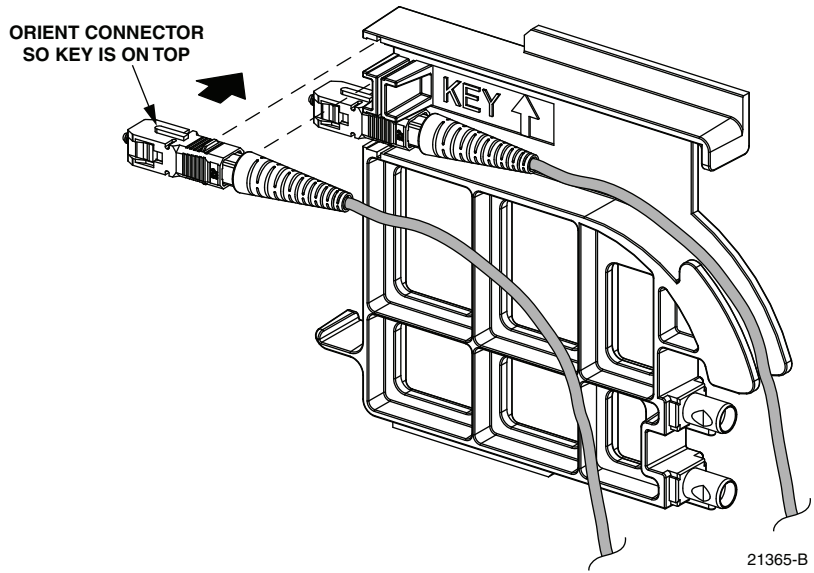

Figure 54. Installing Patch Cord Connector in Dust Cap Assembly
8. Install the patch cord connector in the dust cap assembly as shown in Figure 54.